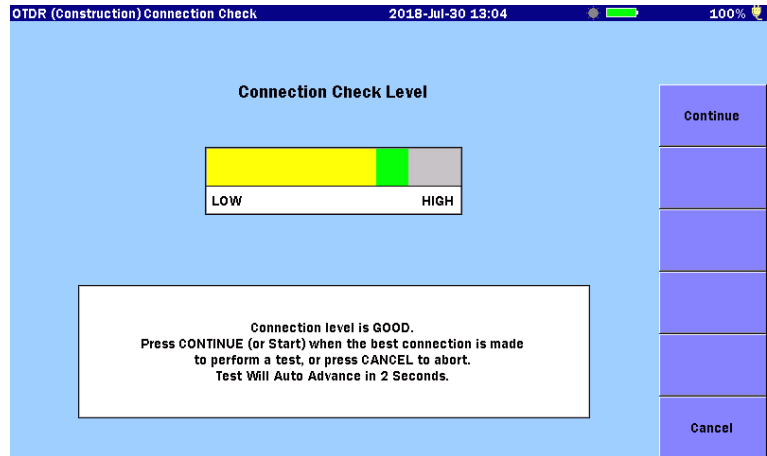

Figure 6.5-1 Connection Check Screen
- When Connection Check is On, the Connection Check screen is displayed (Figure 6.5-1). Touch **Continue** after making sure that the connection state is optimal.